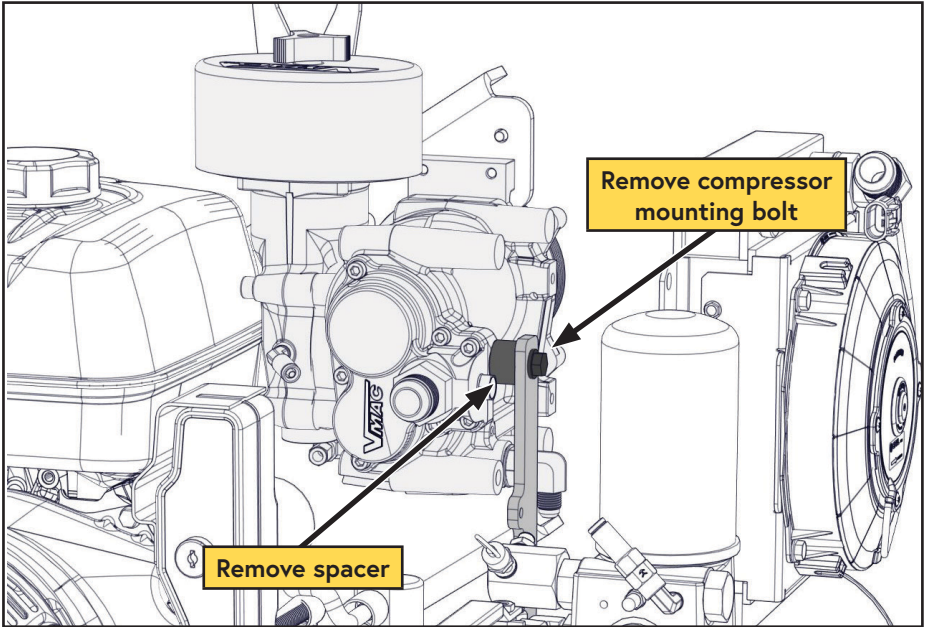

Figure 68 — Remove compressor
- ☐ Remove the bolt from the side of the compressor (Figure 68).